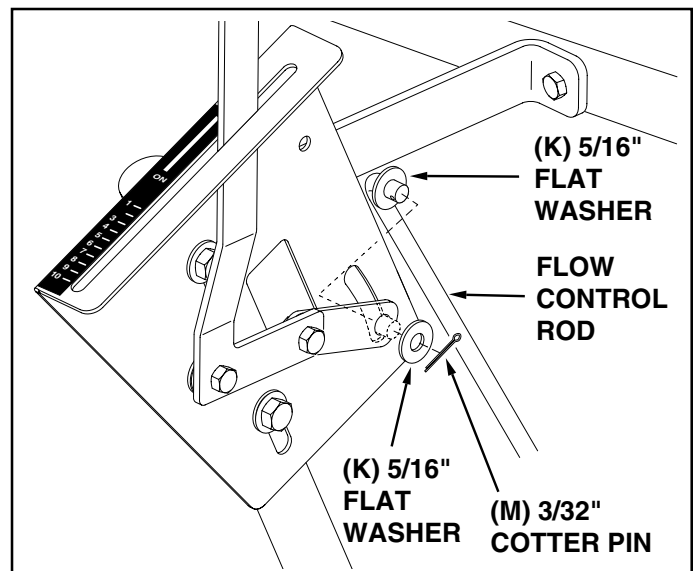

FIGURE 10
- Place a 5/16" flat washer (K) onto the other end of the flow control rod. Insert the end of the rod through the curved slot in the flow control mounting bracket and through the hole in the flow control link. Secure with a 5/16" flat washer (K) and a 3/32" x 3/4" cotter pin (M). See figure 10.